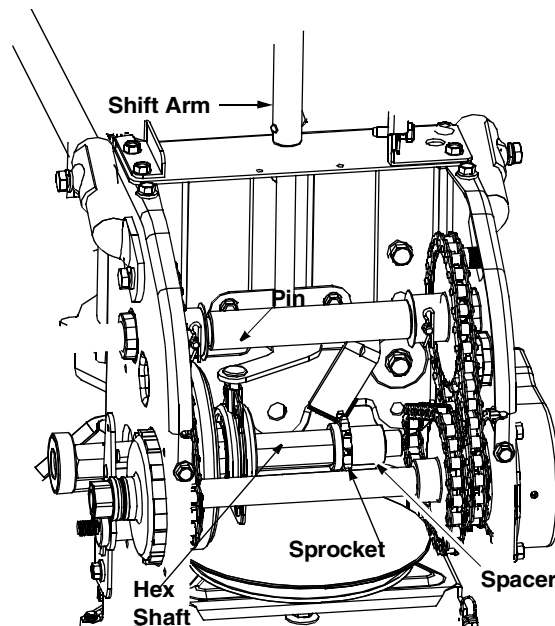

Figure 37
- Insert the pin from the shift arm assembly into the friction wheel assembly and hold assembly in position. See Figure 37.
- Insert the hex shaft through the sprocket and the spacer. See Figure 37. Make certain that chain engages both the large and the small sprocket.
NOTE: If the sprocket fell from the snow thrower while removing the hex shaft, place the sprocket on the hex shaft. Position the hex hub of the sprocket toward the friction wheel when sliding the sprocket on to the hex shaft. See Figure 37.